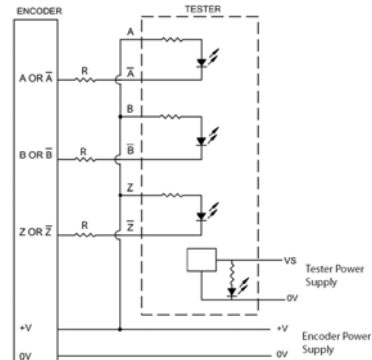

**Figure 2**
1. Connect the terminals for the encoder tester labeled A-, B-, and Z- to the power supply common from the encoder (See Figure 2).